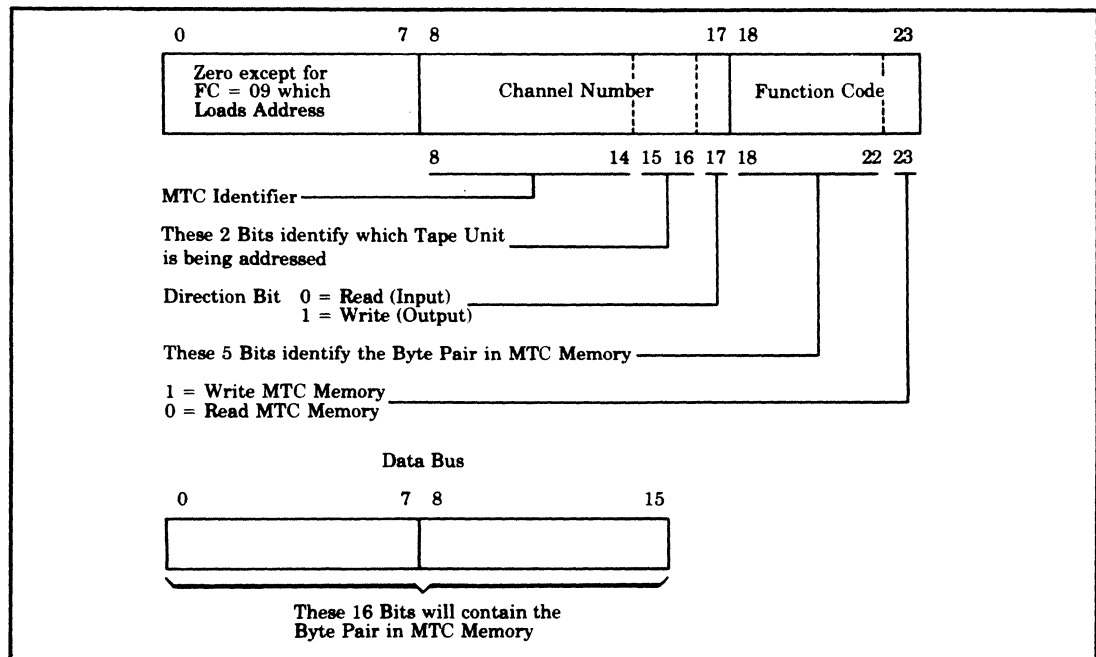

Figure B-1. Register Addressing
The central processor (CP) can read or write any register as long as the specific channel is not busy. To write into a register, an *I/O output* command is used; reading is done with an *I/O input* command. Addressing of the various registers relates to the I/O command as shown in Figure B-1.
The format shown in Figure B-1 is for a Write cycle on the bus. For a Read cycle, the memory data will be returned from the MTC on a second bus transfer.